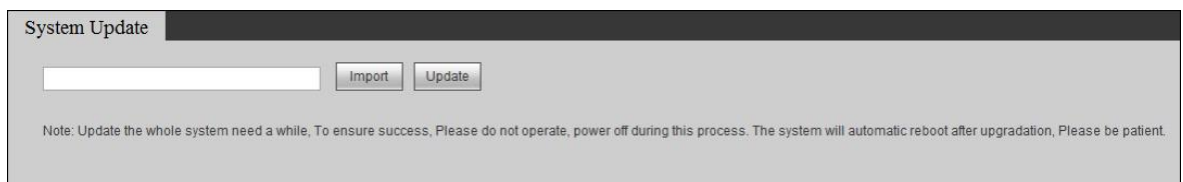

Figure 4-38
Step 1 Select “Setup> System Config> System Upgrade”. The system displays “System Upgrade” interface, as shown in Figure 4-38.